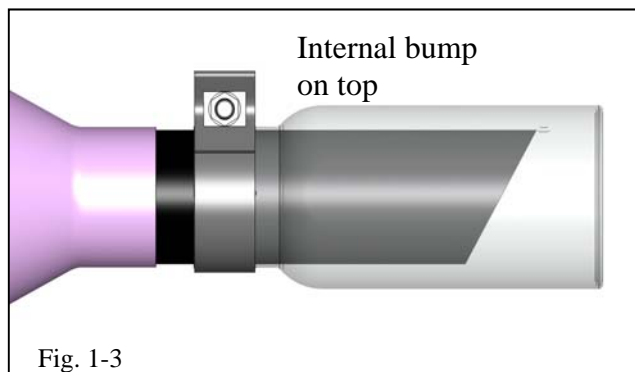

Fig. 1-3
(2) Slide the exhaust tip until the internal bump interferes with tail pipe, approximately 20mm distance between the end of tail pipe and muffler as shown. (Fig. 1-3 & 1-4)